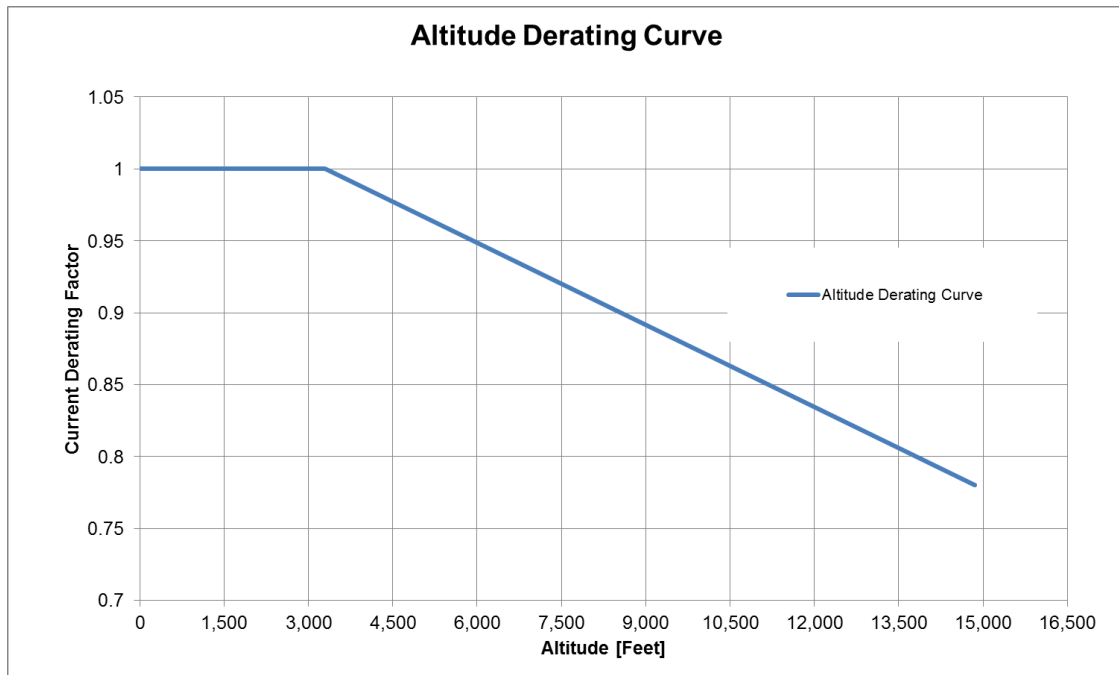

Figure 3-3: Altitude Derating Curve
- Altitude:** 3,300 feet above sea level without derating, see Figure 3-3: Altitude Derating Curve (p10) for derating curve.